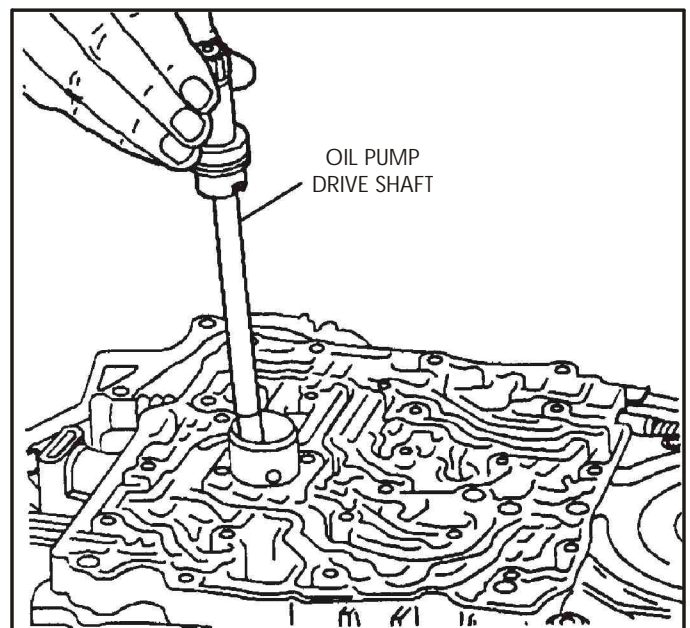

Figure 53
18. Remove the oil pump drive shaft, as shown in Figure 53.